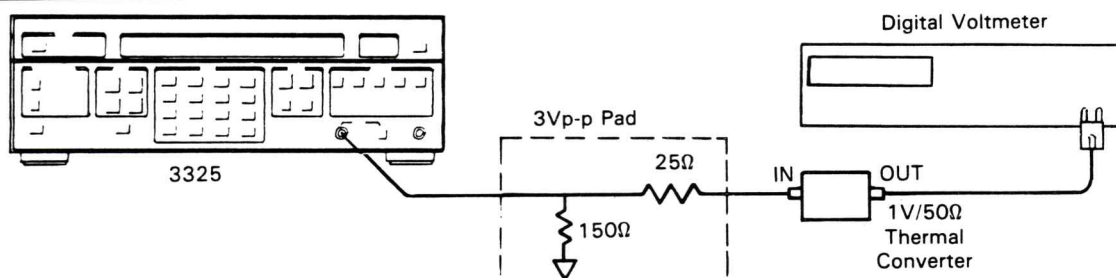

Figure 5-2b. Amplitude Flatness Adjustment (3Vp-p Pad).
j. Replace the 10Vp-p pad with the 3.0Vp-p pad (Figure 5-2b). Repeat steps d and g. If a voltage measured in step g is out of tolerance, repeat the amplitude flatness adjustment with the 3325 at both 10Vp-p and 3Vp-p until all voltages are within tolerance.